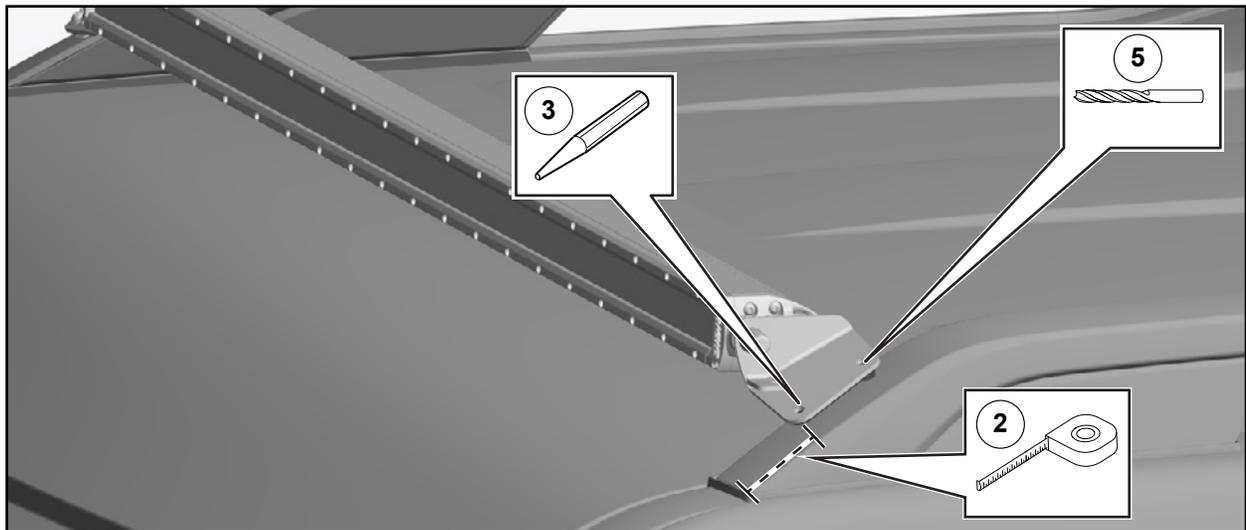

FIGURE 46
46. Position the light bar onto the side rails and mark the holes for drilling. See Figure 46.